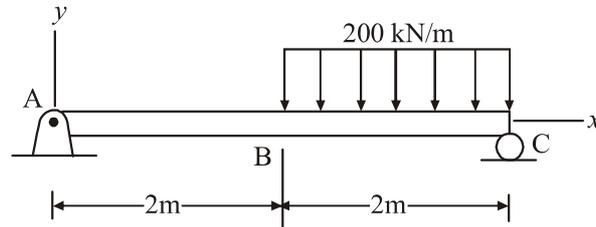

FIG.5
17. For the beam (Fig. 5), draw the shear force and bending moment diagrams. Neglect the weight of the beam.